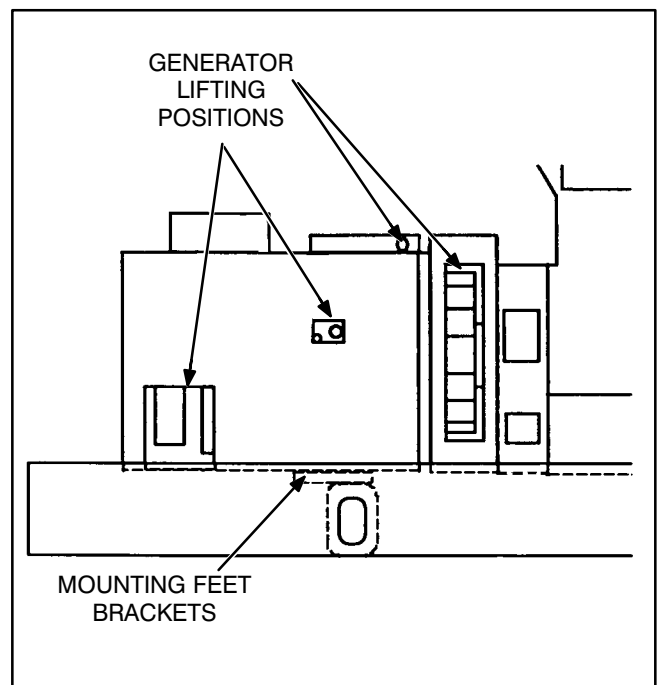

FIGURE 6-10. HC4-7 GENERATOR LIFTING POSITIONS
18. Attach cables of lifting device to generator lifting points (Figures 6-10 or 6-11).
30. Attach cables of lifting device to generator lifting points (Figures 6-10 or 6-11).